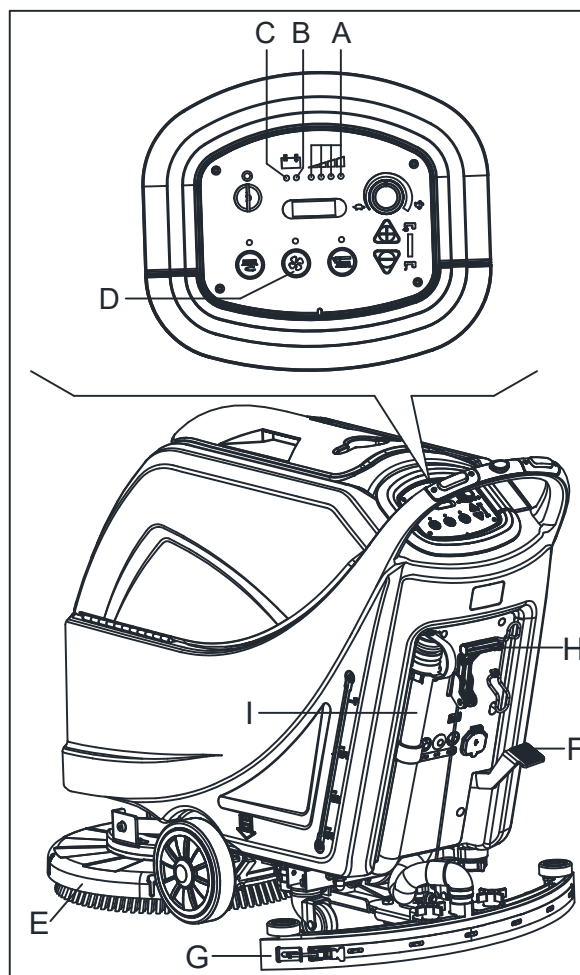
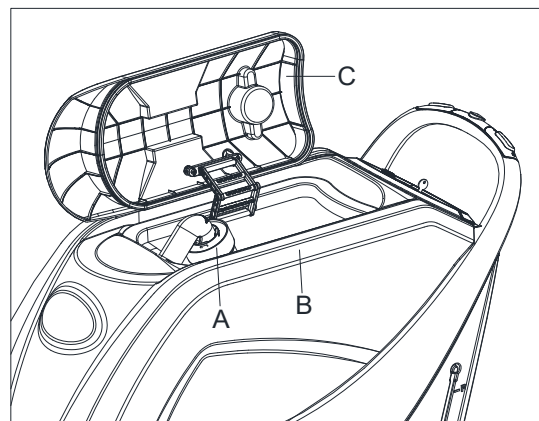

Figure 10
Figure 11
Until the green warning light (A, Figure 10) stays on, the batteries allow the machine to work normally. When the green warning light (A) turns off, and the yellow warning light (B) turns on, it is advisable to charge the batteries, because the remaining charge will last for a few minutes (depending on battery characteristics and work to be performed). When the red warning light (C) turns on, batteries are fully discharged. After a few seconds, the brush/pad-holder is automatically tuned off, while the (only for machine with traction) drive system stay on, to finish drying the floor and drive the machine to the appointed recharging area.
An automatic float shut-off system (A, Figure 11) blocks the vacuum system when the recovery water tank (B) is full. The vacuum system deactivation is signaled by a sudden increase in the vacuum system motor noise frequency, also the floor has not dried.
If the vacuum system turns off accidentally (for example, when the float is activated because of a sudden machine movement), to resume the operation: turn off the vacuum system by pressing the switch (D, Figure 10), then open the cover (C, Figure 11) and check that the float inside the grid (A) has gone down to the water level. Then close the cover (C) and turn on the vacuum system by pressing the switch (D, Figure 10).
When the recovery water tank (B, Figure 11) is full, empty it according to the following procedure.
2. Lift the brush/pad-holder deck (E, Figure 10) by pressing the pedal (F, Figure 10). (only for disc machine)
3. Lift the squeegee (G, Figure 10)) with the lever (H, Figure 10).
5. Empty the recovery water tank with the hose (I, Figure 10). Then, rinse the tank (B, Figure 11) with clean water.